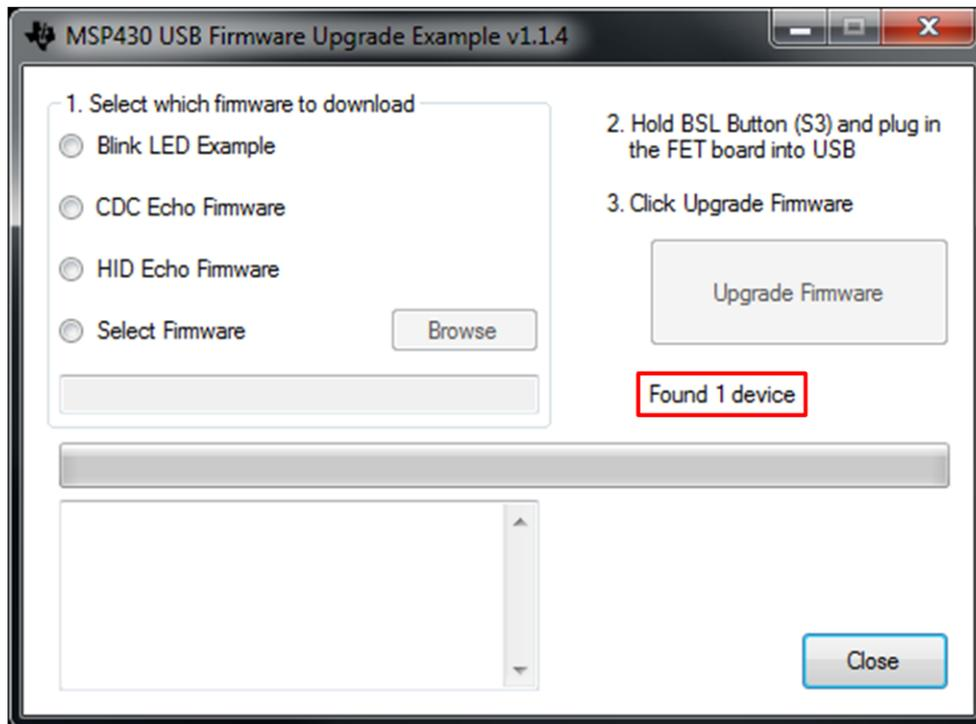

Figure 5-3. USB Firmware Upgrade Window
4. Go to the "SETUP" tab and select "Update Firmware". Select OK to the message "Update MSP430 Firmware?" Accept the license and the message "Found 1 device" should appear as in Figure 5-3.